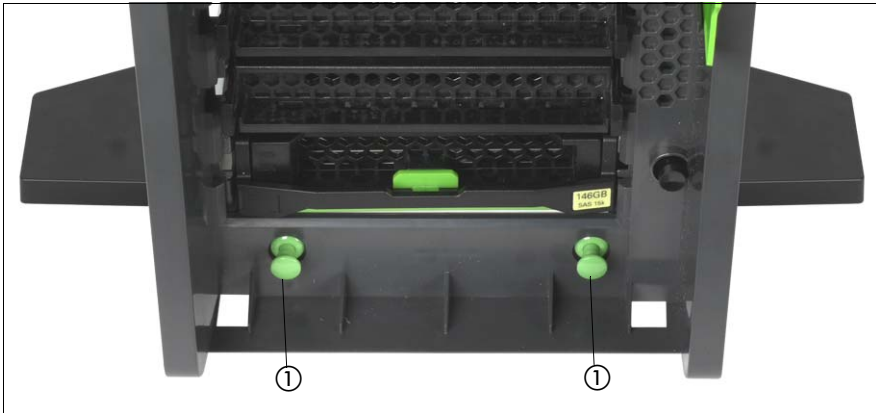

Figure 4: Pulling out the locking buttons
- ▶ Loosen the two knurled screws on the front (see figure 4 on page 30) and pull the server as far as it will go out of the rack.